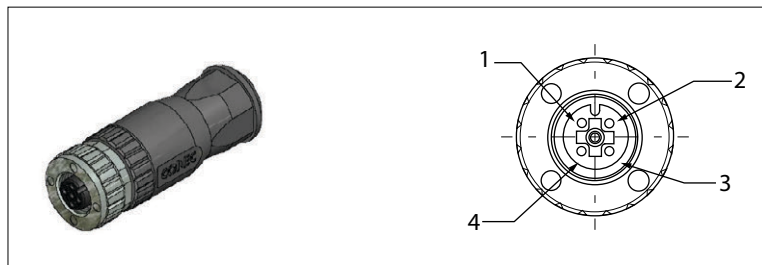

Figure 4. Battery Cable Connector
6. Connect wire to the connector as shown in Table 3. and Figure 4.